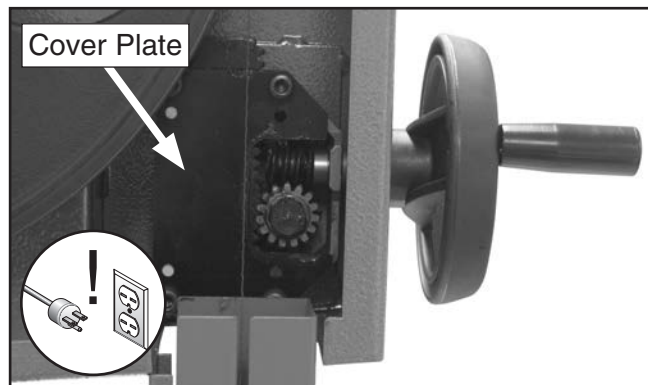

Figure 54. Guide post gears.
2. Lower the guide post down so the upper guide bearings almost touch the table, then open the upper wheel cover to access the gears, shown in **Figure 54**.